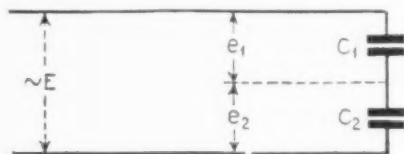

Figure 1
In figure 1 two condensers C_1 and C_2 are connected across an alternating voltage source delivering E volts at a frequency f . First assume that $C_1 = C_2$ then, according to equation (1) the voltages e_1 and e_2 are proportional to the respective impedances or rather reactances of C_1 and C_2 . The reactances of C_1 and C_2 are equal since their capacity is equal, therefore in this case $e_1 = e_2$.